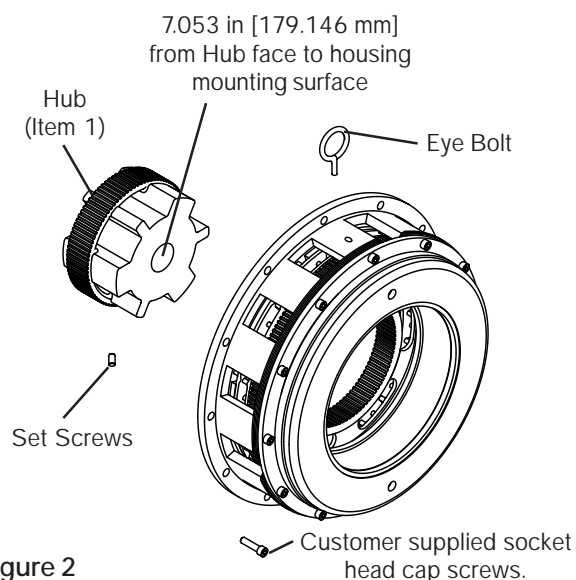

Figure 2
4. Lubricate the splines of the Hub (Item 1) with Never-Seez or an equivalent high temperature, anti-seize lubricant (See Figures 2 and 3).
5. Slide Hub (Item 1) over keys and onto the shaft (See Figures 2 and 3).
**Note:** Axial location of the Hub is important. Refer to Figures 2 and 3 for the correct Hub location.
- a. On the DFB, use the two Set Screws (See Figure 2).
7. Screw a 3/8-16 eye bolt into the top of the DFB or QFB and lift the DFB or QFB into position (See Figures 2 and 3).
8. Apply Loctite® 242 to the threads of twelve customer supplied 5/8-11 socket head cap screws and secure the DFB or QFB to the machine or mounting surface (See Figures 2 and 3).